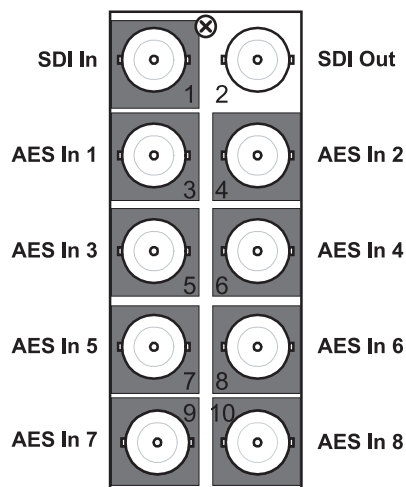

Figure 1.3 Cable Connections for the MUX-8258-A
- **DFR-8310 series frame** — The **8310AR-030** Rear Module is required. The MUX-8258-A is also compatible with the DFR-8310-BNC frame (with the cooling fan option installed). Each rear module occupies one slot and accommodates one card. This rear module provides one SDI input, one SDI output and eight unbalanced AES inputs. (**Figure 1.3**)
- **DFR-8320, OG3-FR, and OGX-FR series frames** — The **8320AR-041** Full Rear Module is required. Each card occupies two slots and accommodates one card. This rear module provides one SDI input, one SDI output, and eight unbalanced AES inputs. (**Figure 1.3**)